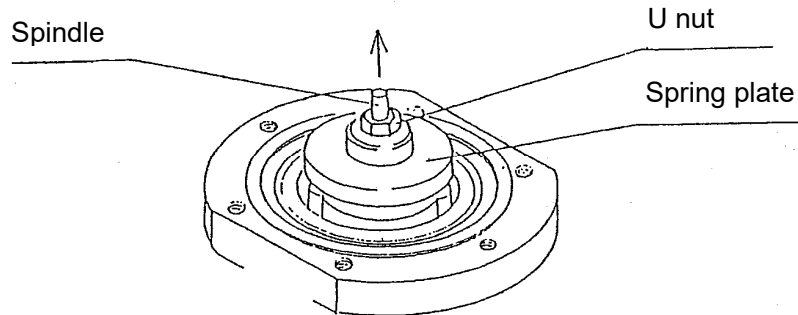
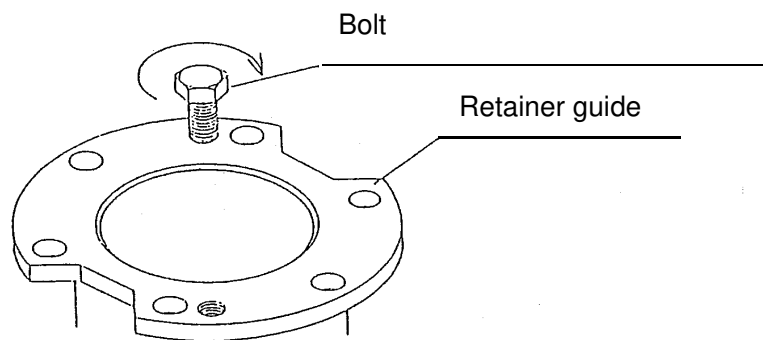

Fig.13
Fig.14
- (1) Release the internal pressure completely, and make sure of zero pressure.
- (2) Slightly loosen the lock nut [14] and turn the adjusting screw [13] counter clockwise to relieve the spring [12] (Unload the spring).
- (3) Remove the hexagon bolt [17] from the spring chamber [2], then remove the spring chamber [2] q, and take out the spring [12] and the spring plate [10].
- (4) To remove the diaphragm [9], fix the spindle [5] and remove the U nut [18].
- (5) To remove the retainer [6], loosen and remove the retainer guide clamping bolt [16] and pull the retainer guide [8]. Remove it by the bellow method (Fig.13, Fig.14) when it is difficult to remove the retainer guide [8].
- (6) To remove the valve seat [3], pull the spindle [5].
- (7) Fix two planar sections at spindle [5] and loosen U nut for spindle to remove it, then the valve can be dismantled.
To remove the retainer guide [8] easily, install the spring plate [11] and U nut [18] to spindle [5] again and pull the spring plate. (Fig.13)
To remove the retainer guide [8] easily, screw the bolt [16] to retainer guide and pull it. (Fig.14)